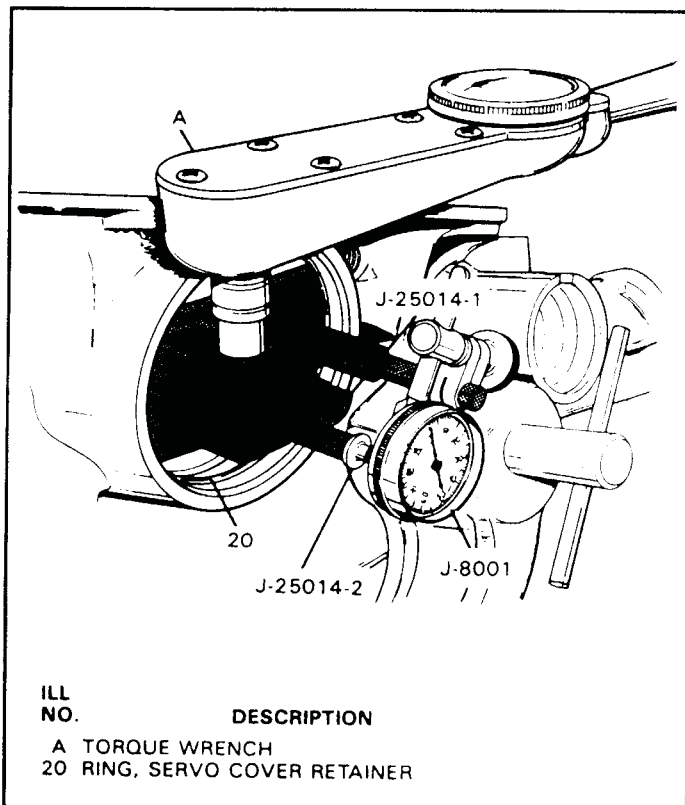

Figure 36
13. Install J-25014-2 checking tool in intermediate servo bore, and retain with the servo cover snap ring, as shown in Figure 36. Align the retaining ring with gap at case slot.
14. Install pin J-25014-1, and assure tapered pin end is against band apply lug (See Figure 36).
15. Install dial indicator against top of J-25014-2 zero post, as shown in Figure 36.
16. Apply 100 in.lbs. to hex nut on the gaging tool as shown in Figure 36.